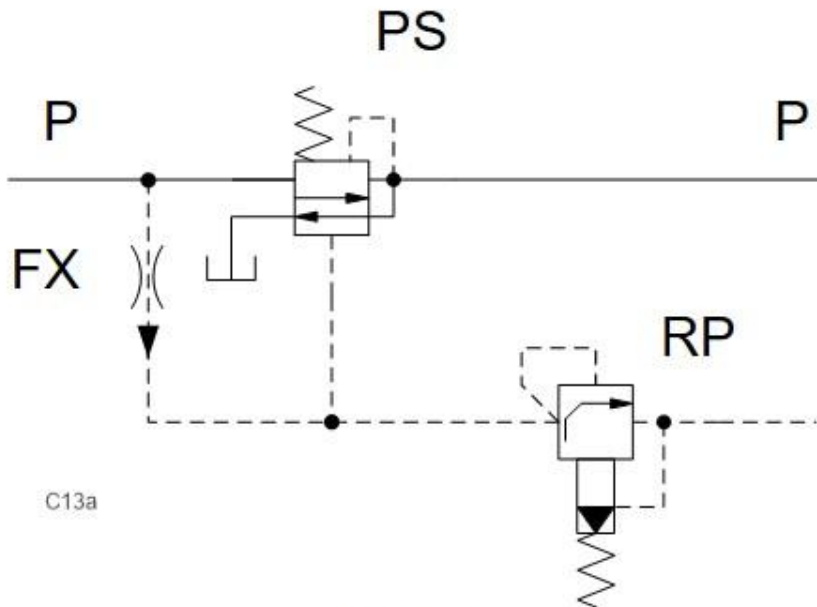

Fig. 1
- **Fig. 1** uses a direct-acting spool-type reducing/relieving valve as a main stage. It gives a precise pressure control. The controlled pressure P is about 10 psi below the setting of the pilot valve RPET. Using a proportional valve RBAP instead of a RPET provides good control at very low pressures.